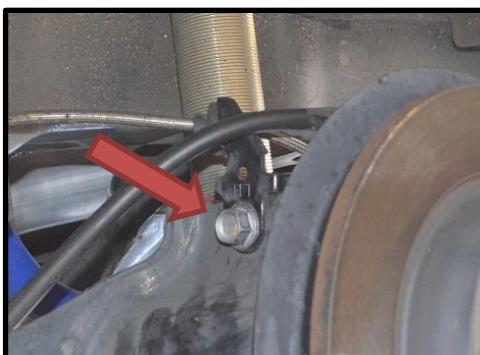

Figure 2e
- d) Replace bolts that were removed in step 1d. Tighten them to 57-75ft.lbs (shown in Figure 2e and Figure 2f).